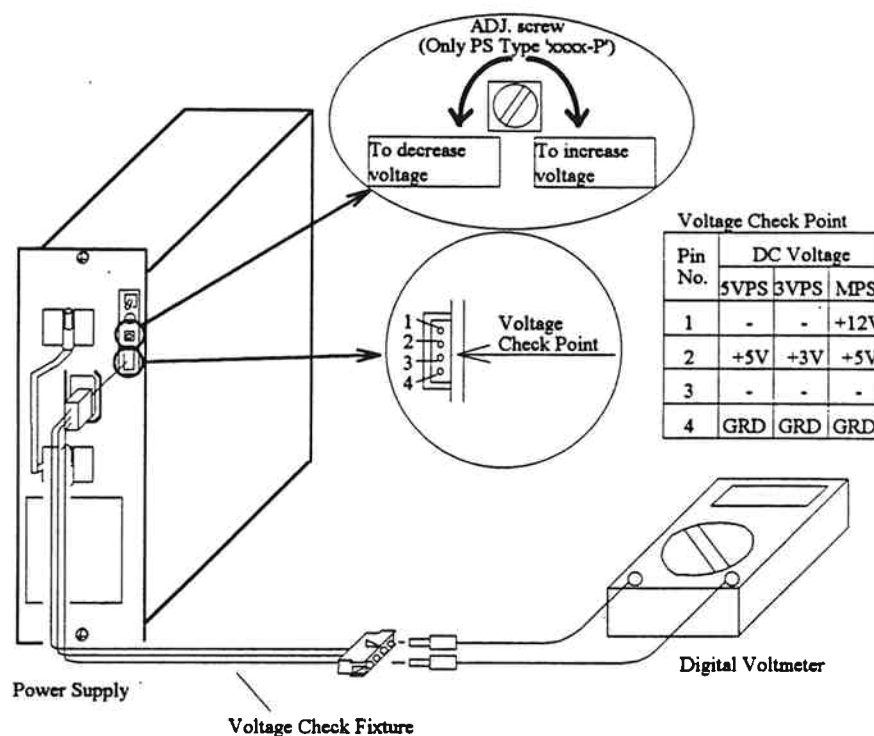

Fig. 9.1-2 Location of ADJ. Screw (PS Type 'xxxx-P, R')
- Fig. 9.1-2 'Location of ADJ. Screw (PS Type 'xxxx-P, R') on PERIOD 02-30